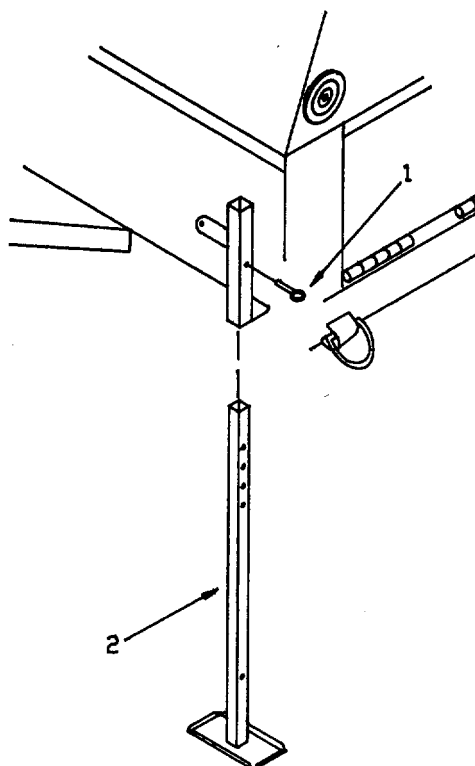

Figure 4-34 Stabilizer.
- (1) Remove self-locking pin (1, Figure 4-34).
- (2) Remove stabilizer (2).
- (1) Install stabilizer (2, Figure 4-34) to trailer.
- (2) Install self-locking pin (1).
- (3) Move stabilizer (2) to transport position (lower holes).
- (4) Remove floor jack or support equipment.